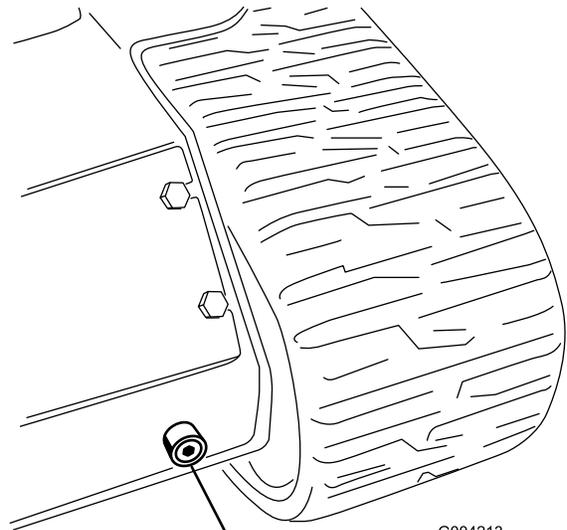

**Figure 63**
5. Remove the hydraulic-tank cap and dipstick (Figure 63).